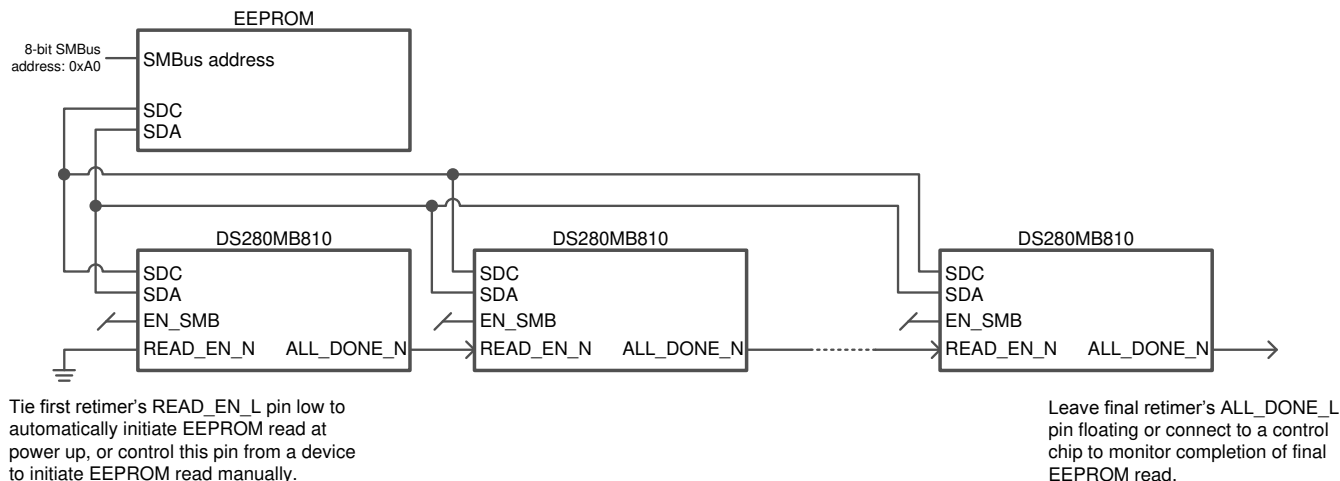

图 8-4. Example daisy chain for multiple device, single EEPROM configuration
- If multiple DS280MB810 devices share a single EEPROM, connect the ALL_DONE_N output of the first device to the READ_EN_N input of the next device, as shown in 图 8-4.